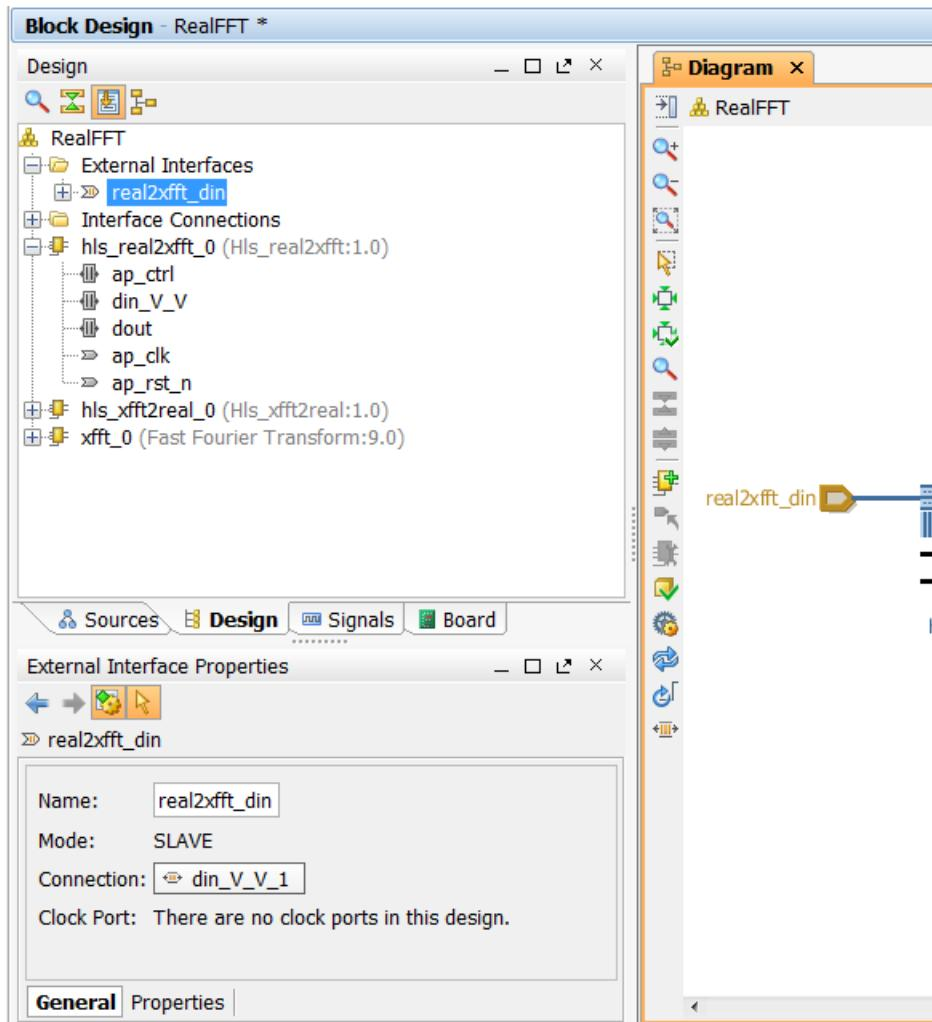

Figure 9-19: Port Naming
- In the External Interface Properties pane (Figure 9-19), click in the Name text entry box to highlight `din_V_V`.